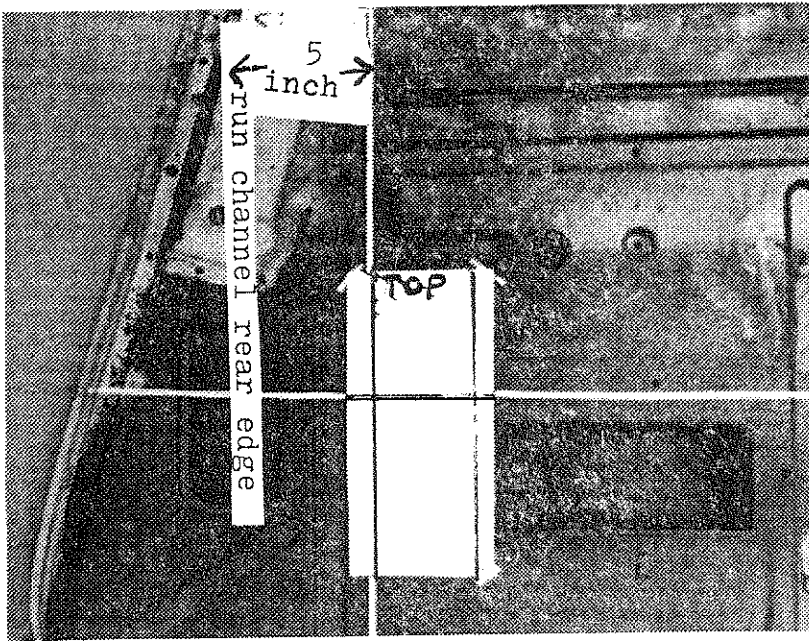
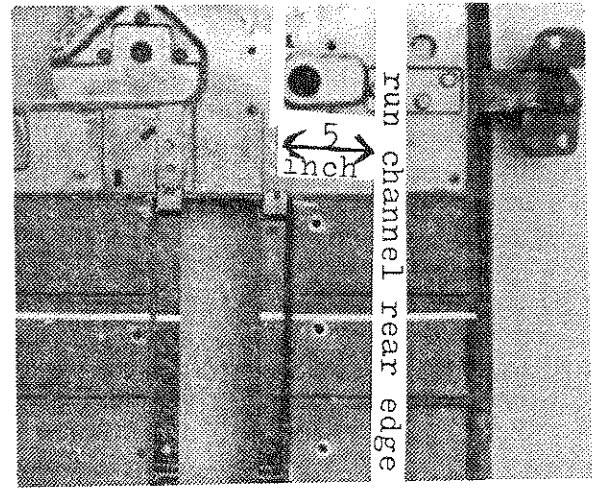

Fig. 3
Fig. 4
7. Establish these lines carefully. On cars that are closed in at the bottom you will need to establish a vertical line 5 inches to the rear of front run channel rear edge (Fig. 3). You will also need to establish a horizontal line with the center of roller channel (Fig. 3)
After establishing these two lines, position the template as shown in (Fig. 3) and scribe a line around edge of template, the area covered by the template will need to be cut out. (Fig. 4)
Install mounting brackets so white marks on brackets line up with lower roller channel line. (Fig. 4) Front bracket will be in line with vertical line, other bracket will be 3 11/16 to rear of front bracket. (Fig. 4)